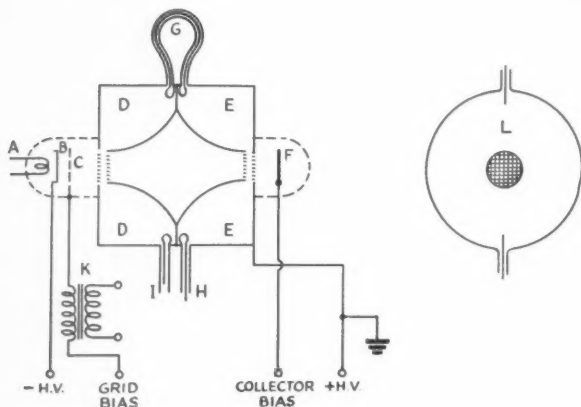

Fig. 3—The Klystron oscillator in cross section. Letter designations are as follows:
Fig. 3 — (A) Lateral recording, as used in phonographic and most instantaneous recordings. The stylus cuts a groove of constant width and depth but moves from side to side in accordance with the frequency and amplitude of the signal being recorded.